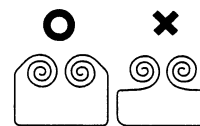

Fig.2
6. With the black side of the ribbon facing upwards, place one of the reels on the reel shaft on the right. (Fig.2) Make sure that the reel is securely in place.